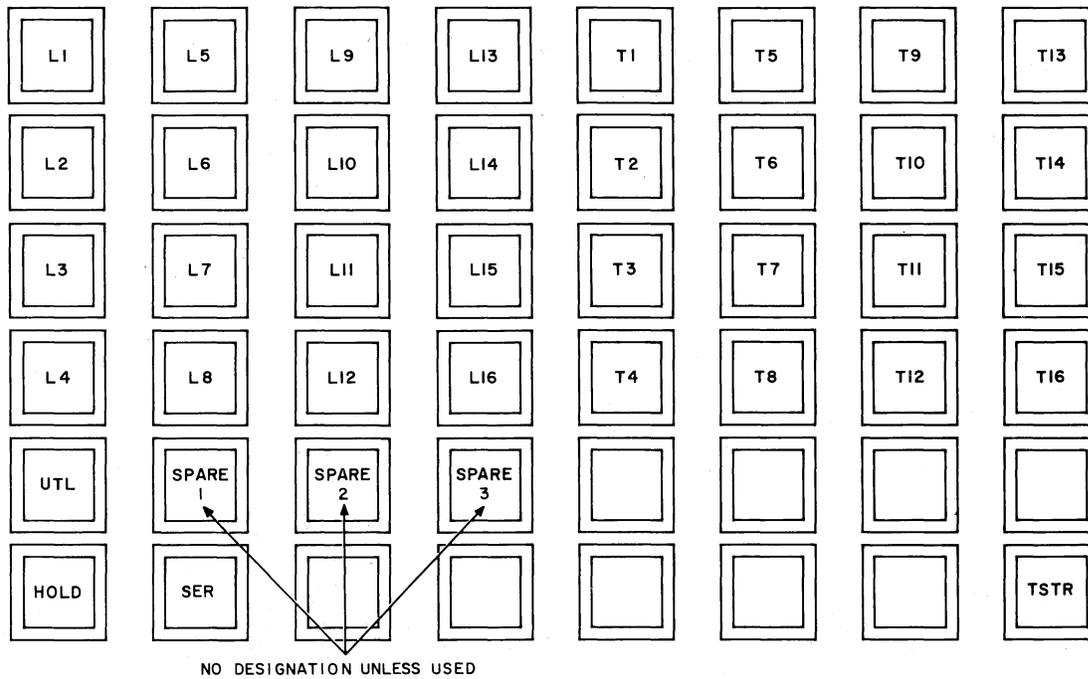

Fig. 1—Data Auxiliary Set 804K-Type Key Designations
2.01 Key designations of data auxiliary set 804K-type are illustrated in Fig. 1. Each data set in a multiple data set station is assigned one illuminating line pushbutton and one illuminating test pushbutton.